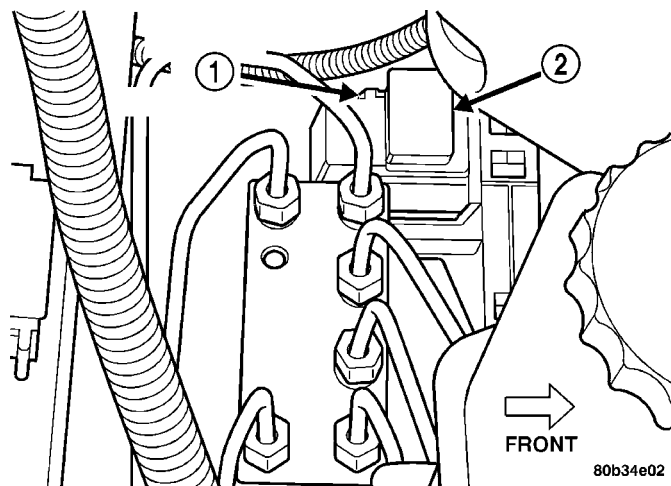

Fig. 18 24-way CAB Connector Lock
(10) Disconnect the 24-way wiring harness connector from the CAB using the following procedure. Grasp the lock on the 24-way connector (Fig. 18), and pull it up from the connector as far as possible. This will unlock and raise the 24-way connector out of the socket on the CAB.
(11) Raise vehicle. (Refer to LUBRICATION & MAINTENANCE/HOISTING - STANDARD PROCEDURE)
(12) Remove the left front tire and wheel assembly.
(13) Remove fasteners securing the inner fender splash shield in place. Move the splash shield out of the way.
(14) Remove the 3 bolts attaching the ICU to the mounting bracket.
(15) Remove the ICU from its mounting bracket. Then, remove the ICU from the vehicle by pulling it out around the left side of the mounting bracket, then through the wheel well.
(5) Install the 24-way connector into the socket on the CAB. The connector is installed using the following procedure. Position the 24-way connector in the socket on the CAB and carefully push it onto CAB as far as it will go. When connector is fully seated into the CAB socket push in the connector lock (Fig. 18) as far as it will go. This will pull the 24-way connector into the socket on the CAB and lock it in the installed position.